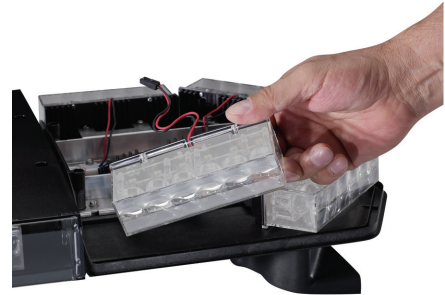

FIGURE 3
Unplug the TriCore light head's power wire/wires from the light bar's wiring harness. Then with a 1/4" Hex Bit Driver, remove the #8 X .270" 6 Lobe Hex Washer Head Screws that attach the light head mounting brackets to the light bar. **Note: For front or rear facing light heads there are (2) screws holding each light head and for corner light heads there are (6) screws holding the light head.** Then remove the light head (See Figure 3).